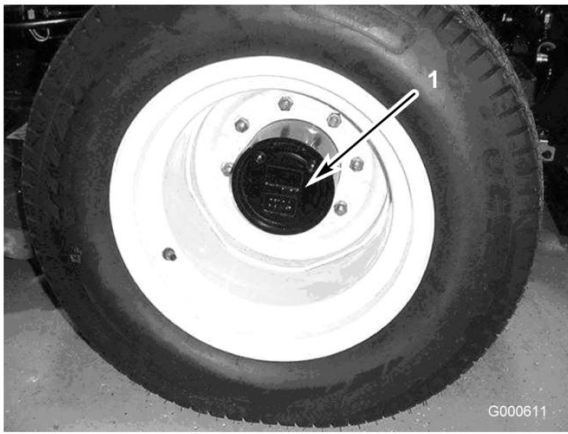

Figure 45
1. With the machine on a level surface, position the wheel so that the check/drain plug (Figure 45) is at the lowest position (6 o'clock).